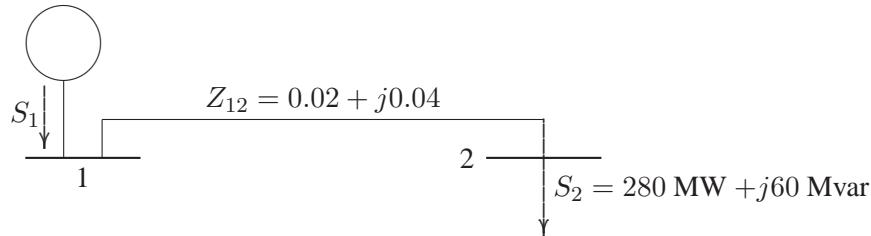

FIGURE 51
6.6. In the power system network shown in Figure 51, bus 1 is a slack bus with $V_1 = 1.0 \angle 0^\circ$ per unit and bus 2 is a load bus with $S_2 = 280 \text{ MW} + j60 \text{ Mvar}$. The line impedance on a base of 100 MVA is $Z = 0.02 + j0.04$ per unit.